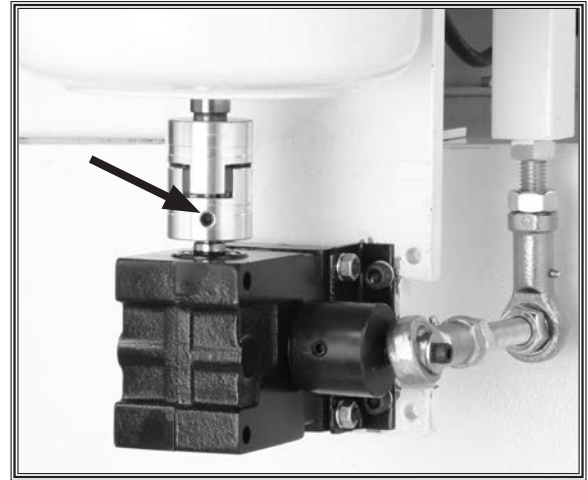

Figure 35. Spindle connector set screws.
2. Tighten the set screws shown in **Figure 35**.